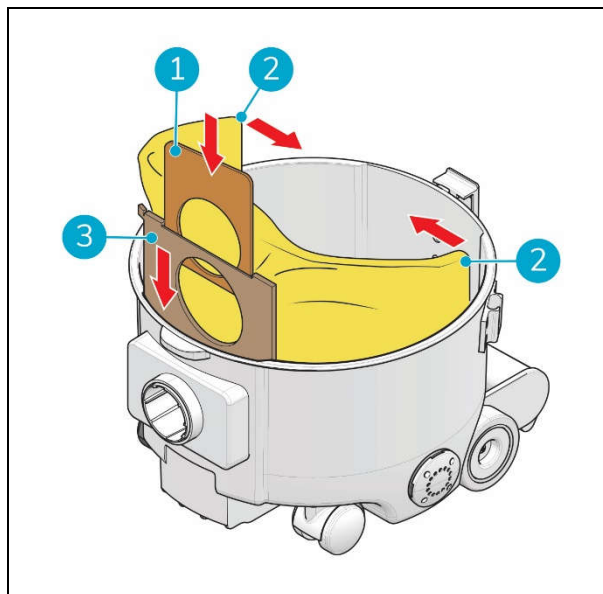

Figure 13
10. Slide the cardboard collar of the new filter bag (fig 13, pos 3) into the slots to fully insert the dust bag.
11. Push the cardboard tag (fig 13, pos 1) down to open the bag.
12. Unfold the dust bag (fig 13, pos 2).